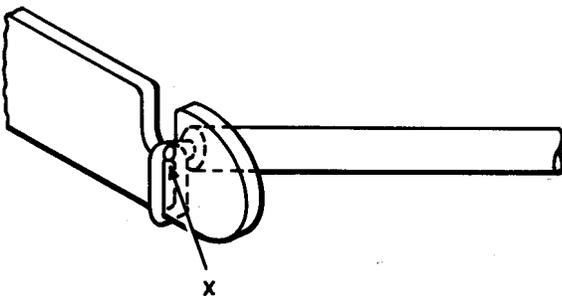

Fig. 3—Termination of Wire on Protector (Notch on Upper Side of Terminal)
7.05 To terminate a wire on a protector terminal where the notch appears on the top as shown in Fig. 3, route the wire through the notch, down the front side and up the rear side, making one complete turn around the terminal. Break the excess wire at point "X". 20-gauge wire should be cut.